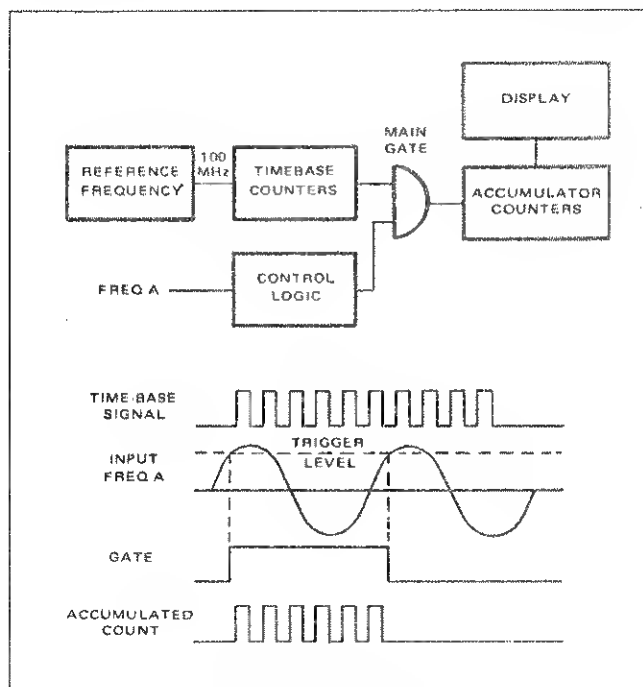

Figure 4.3 - Period
4.3.3.1 Period is the inverse of frequency. Therefore, channel A signal is applied to the control logic and the reference signal is connected to the timebase counters (figure 4.3).